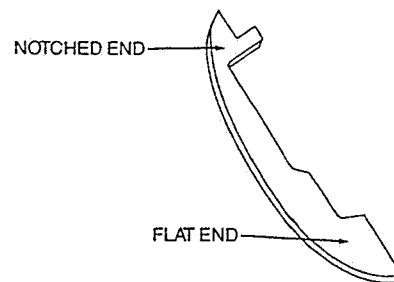

Figure 7.10.1
C. Insert T-150 "E" Gap Gauge (Figure 7.10.1) between the pole laminations in the rotor shaft and the pole laminations in the frame.